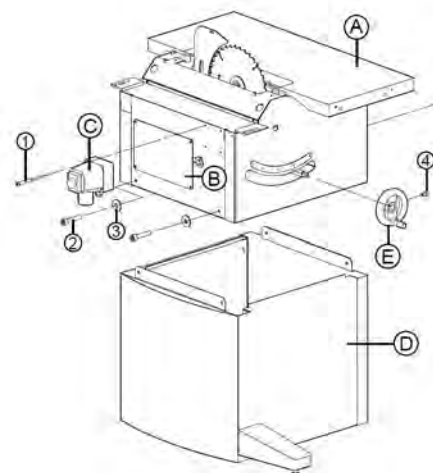

Fig. 6: Mounting the machine housing
Step 1: Assemble the upper case to the lower case as shown in Figure 6.